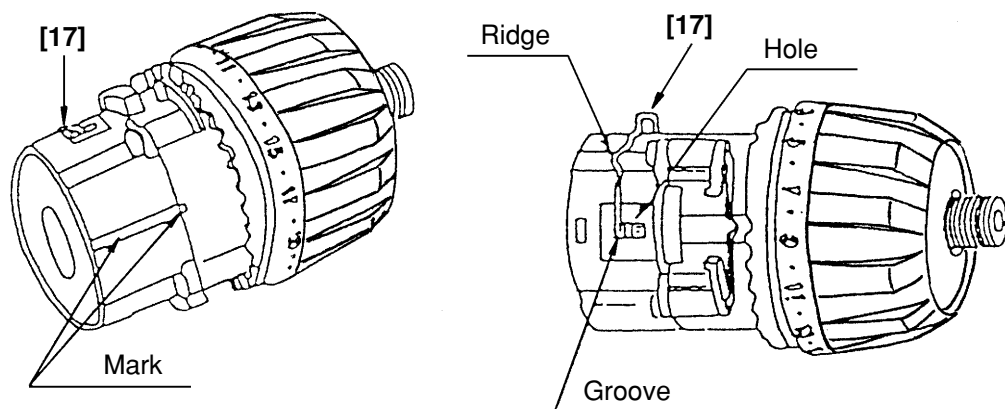

Fig. 13
- (ii) Install the Front Case [9] and the Rear Case [15] together with the mark on the Front Case [9] aligned with the mark on the Rear Case [15]. (See Fig. 13.)
With the ridge at the Shift Arm [17] facing the Motor [26] side, first install them on the unmarked side of the assembly reassembled in step (c). Then insert the projections on the Shift Arm [17] into the holes in the Rear Case [15] and make sure that the projections are fitted into the grooves in the Slide Ring Gear [18] mounted within the Rear Case [15]. (See Fig. 13.)